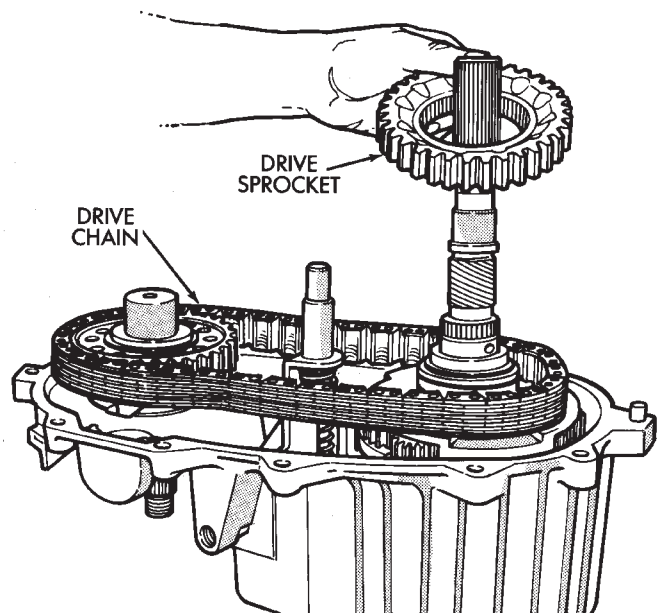

Fig. 23 Drive Sprocket And Chain Removal
- (2) Remove drive sprocket and chain (Fig. 23).